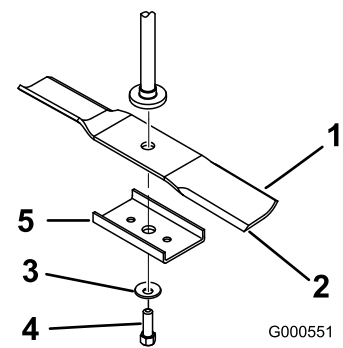

Figure 48
Hold the blade end using a rag or thickly-padded glove. Remove the blade bolt, curved washer, blade stiffener, and blade from the spindle shaft (Figure 48).
1. Install the blade onto the spindle shaft (Figure 48).
2. Install the blade stiffener, the curved washer (cupped side toward the blade) and the blade bolt (Figure 48).